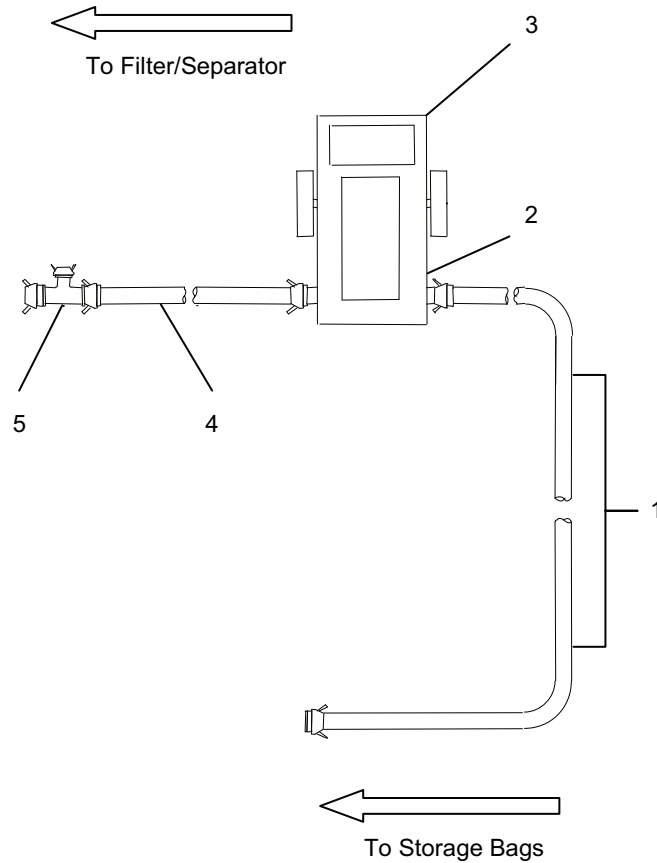

Figure 11. Connection of 600 GPM Pumping Assembly.
7. Position the spill containment berm (Figure 11, Item 2) adjacent to the end of the five sections of 6 in. x 10 ft. suction hose (Figure 11, Item 1).
8. Position the 600 GPM pumping assembly (Figure 11, Item 3) in the spill containment berm.
10. Connect the five sections of 6 in. x 10 ft. suction hose (Figure 11, Item 1) to the suction side of the 600 GPM pumping assembly (Figure 11, Item 3).
12. Connect the one section of 6 in. x 50 ft. discharge hose (Figure 11, Item 4) to the discharge side of the 600 GPM pumping assembly (Figure 11, Item 3).
14. Connect the one section of 6 in. x 50 ft. discharge hose (Figure 11, Item 4) to the 6M x 6F x 4M tee assembly (Figure 11, Item 5).